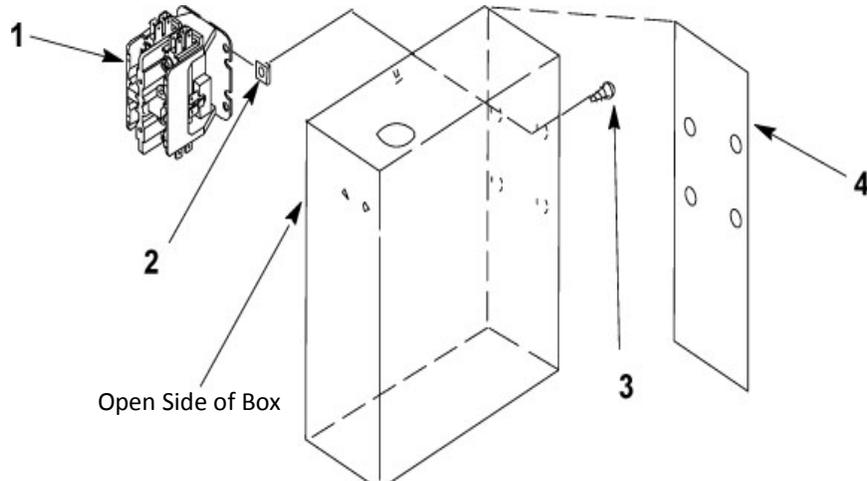
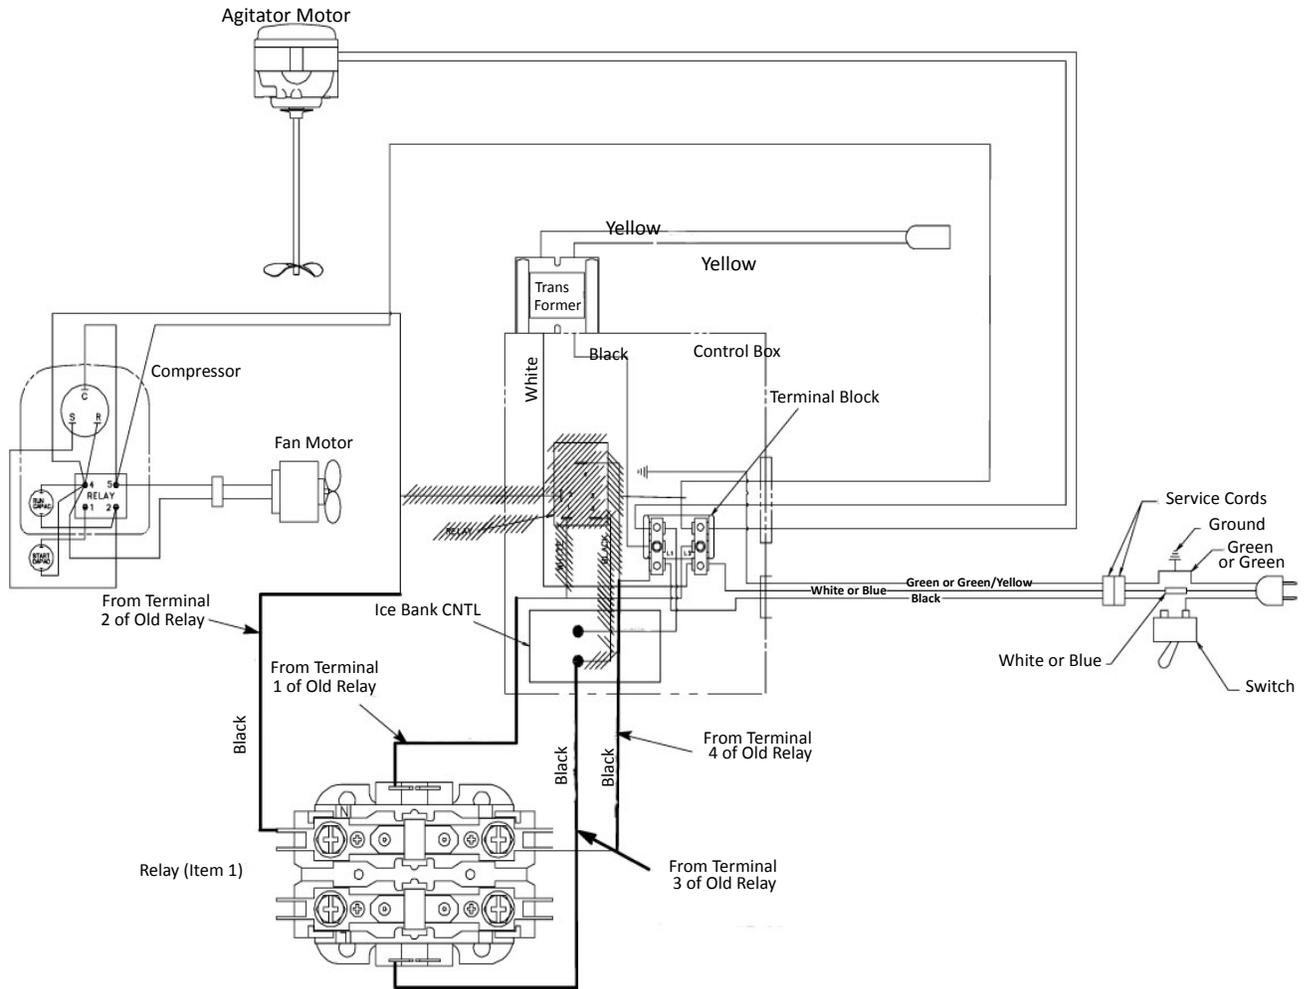

Figure 1. Electrical Control Box (As Viewed From Rear)
Figure 2.. Wiring Diagram
(see Figure 1, Figure 2)
1. Position and tape MOUNTING TEMPLATE (item 4) on left-hand side of the electrical control box as show in Figure 1). *MAKE SURE MOUNTING TEMPLATE IS POSITIONED ON THE ELECTRICAL CONTROL BOX SO THE DRILLED FOUR HOLE PATTERN WILL BE LOCATED ON UPPER HALF OF THE CONTROL BOX.*
3. Install four J-NUTS (item 2) on new RELAY (item 1) as shown in Figure 1.
5. Connect three black wires and one white wire, previously disconnected from the old relay, to the new relay as shown in Figure 2).
6. Place the relay inside the electrical control box over the four holes drilled in the control box. Secure relay inside electrical control box with four MACHINE SCREWS (item 3)